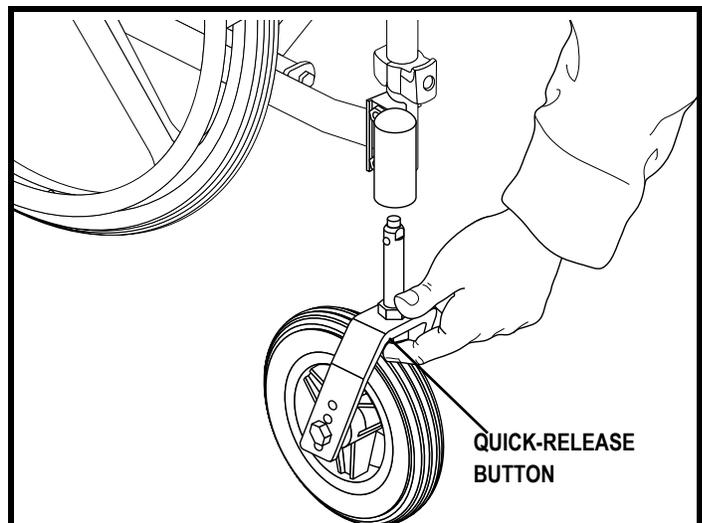

Figure 41. Quick-release Caster Removal
1. Press the quick-release button and pull the caster wheel off. See figure 41.